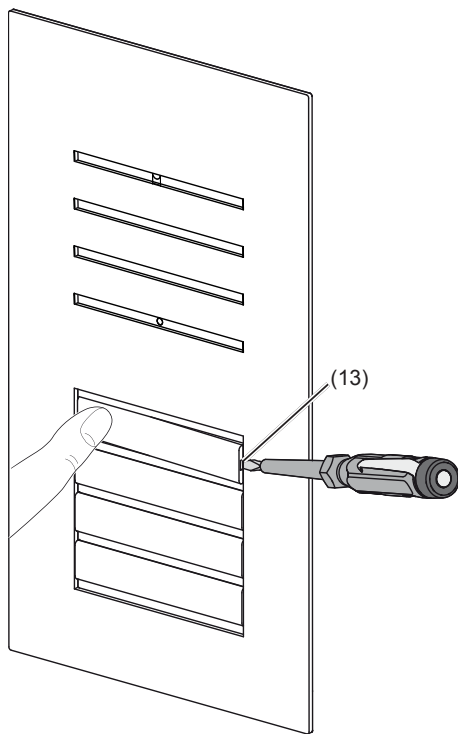

Figure 3: name plate change
- Keep call push-button pressed on one side. On the opposite side, the lever opening (14) is accessible for a screwdriver.
- Position the screwdriver in the lever opening (13) and release the interlock (Figure 3).